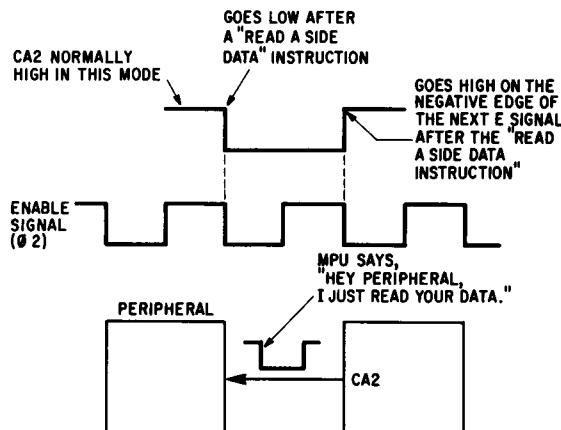

Fig. 9.18 Pulse mode
2. Bits 5, 4, and 3 of CRA = 101 (Pulse Mode) This mode, which tells the peripheral that the data on peripheral data register A has been read by the MPU, is used when a complete handshake is not required. The peripheral may make data available to the MPU on a continuing basis but needs to know when the MPU takes the data (see Fig. 9.18).